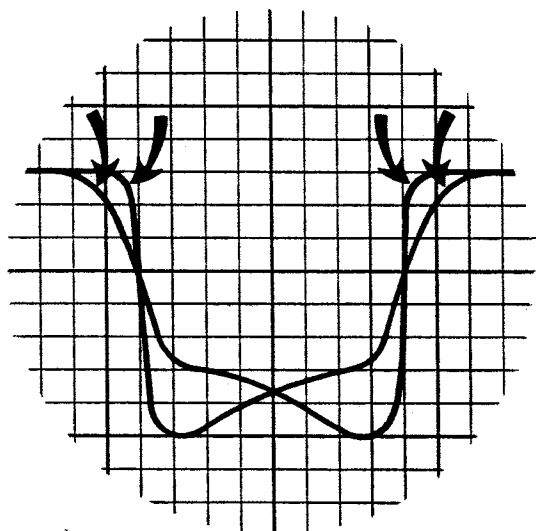

Fig. 30 - Note that shoulders of traces do not coincide, indicating that sweep frequency is not centered on fixed-tuned filter.
4. Adjust the frequency of the signal generator so that the shoulders of the traces coincide. (See Figures 30 and 31.) This centers the generator on the center frequency of the ceramic filter.
Apply a strong, swept signal and use an RF probe on the oscilloscope, connected at the output of the ceramic filter. This will remove most possibilities for error and allow the filter center to be found more easily. Tune the generator frequency for coincidence of the trace shoulders (Figures 30 and 31), remove the modulation, and zero the secondary (top slug) of the discriminator transformer. Then reapply modulation, move the scope to the limiter jack, and adjust the I-F coils for the best picture.